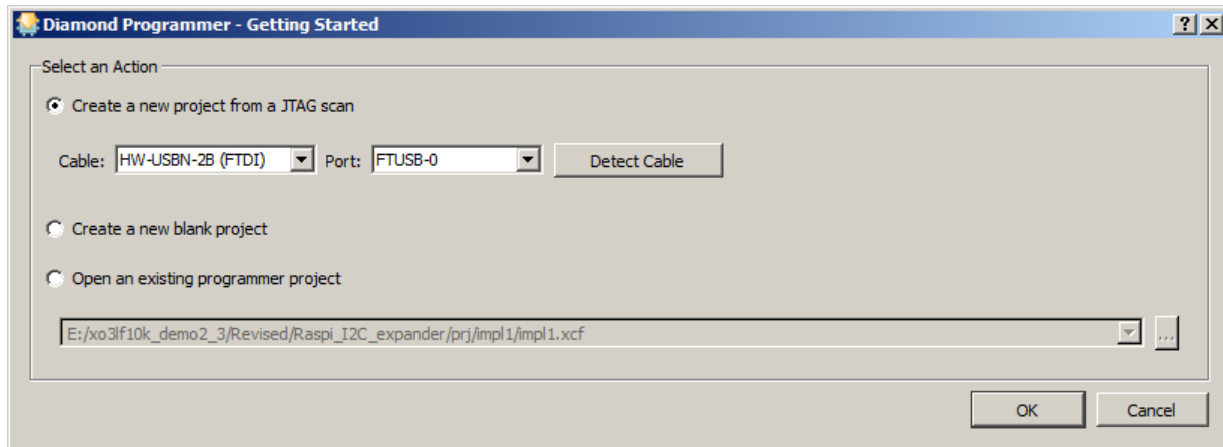

Figure 7.1. Diamond Programmer Getting Started Dialog
2. Launch the Diamond Programmer Software, version 3.9 or above. In the Getting Started dialog box (Figure 7.1), select **Create a new project from a JTAG scan** and click **OK**.